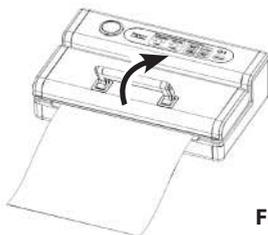

Fig.5
- Unlock lid handle lock, remove bag; your bag is now ready to be used for filling and sealing (fig. 5)